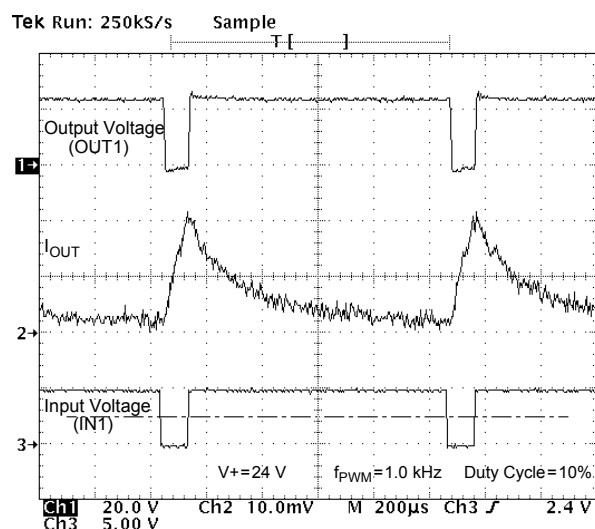

Figure 10. Output Voltage and Current vs. Input Voltage at $V+ = 24\ \text{V}$, PWM Frequency of 1.0 kHz, and Duty Cycle of 10%
20. The outputs can be PWM controlled from an external source. This is typically done by holding one input high while applying a PWM pulse train to the other input. The maximum PWM frequency obtainable is a compromise between switching losses and switching frequency. Refer to Typical Switching Waveforms, Figures 10 through 17, pp. 10–11.